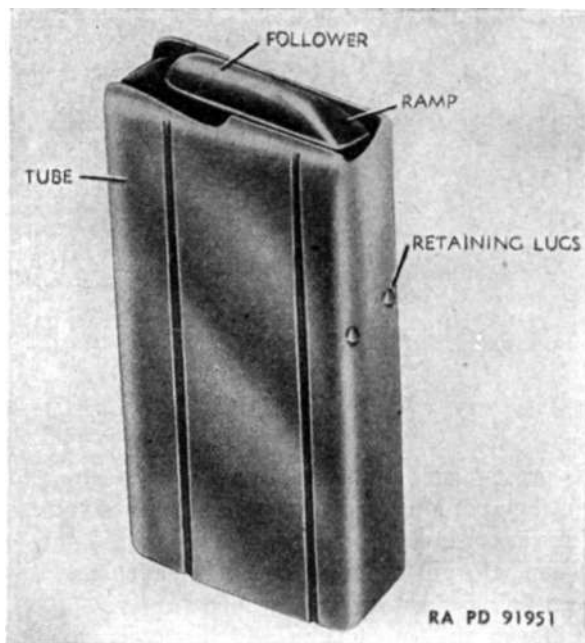

Figure 70. Follower properly assembled.
d. When assembled correctly, the ramp on the follower must be facing the rear of the tube. The rear of the magazine tube is flat and has the two nibs for engaging the magazine catch. (See fig. 70.)